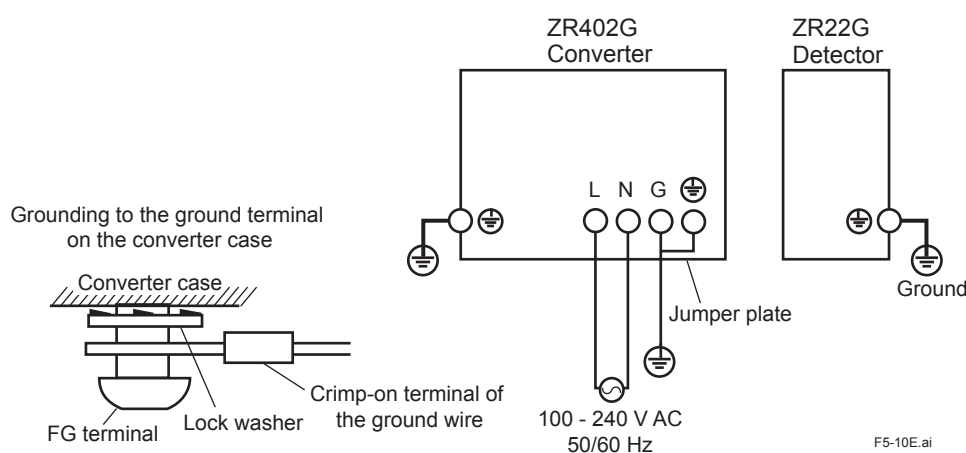

Figure 5.5 Power and Grounding wiring
- (1) Keep ground resistance to 100  $\Omega$  or less (equivalent JIS D style (Class 3)).
- (2) When the ambient temperature of the wiring installation is 75 to 150°C for the wiring of the detector, use wiring material with sufficient heat resistance.
- (3) When connecting the ground wiring to the ground terminal of the converter case, be sure that the lock washer is in contact with the case surface (see Figure 5.5.).
- (4) Ensure that the jumper plate is connected between the G terminal and the protective ground terminal of the converter.